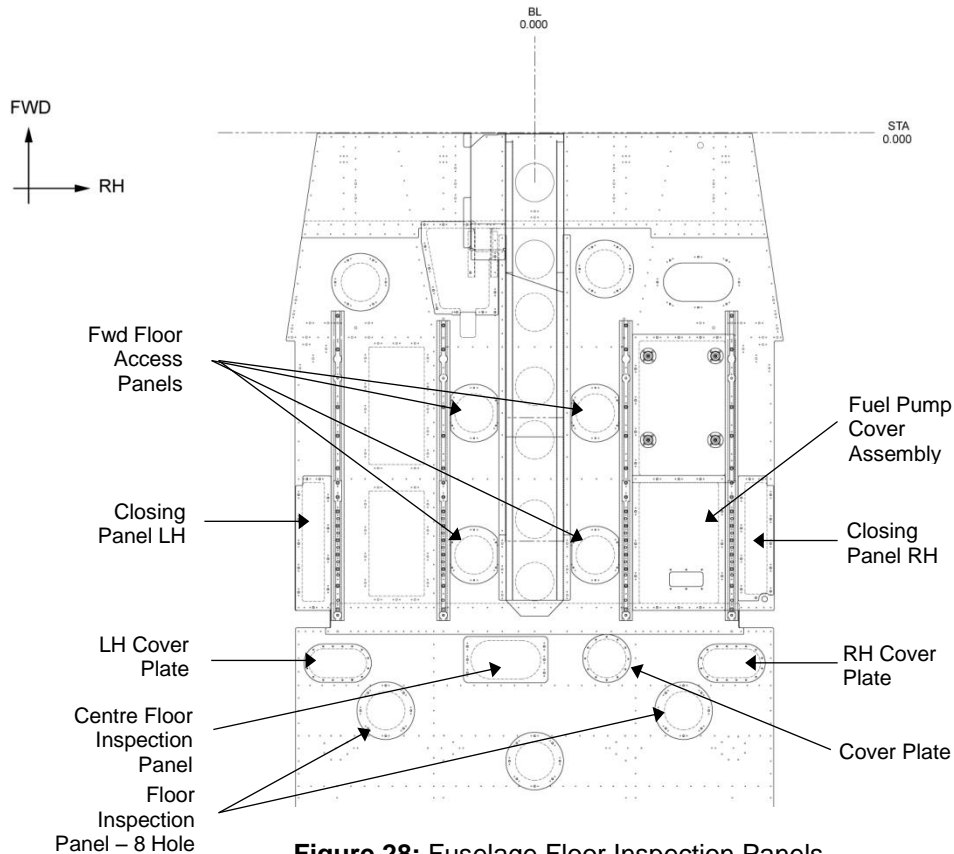

Figure 28: Fuselage Floor Inspection Panels
- 2) Remove the four Fwd Floor Access Panels (GA8-533022-045) (See Figure 28).
- 3) Remove the two Floor Inspection Panels – 8 Hole (GA8-533022-285) (See Figure 28).